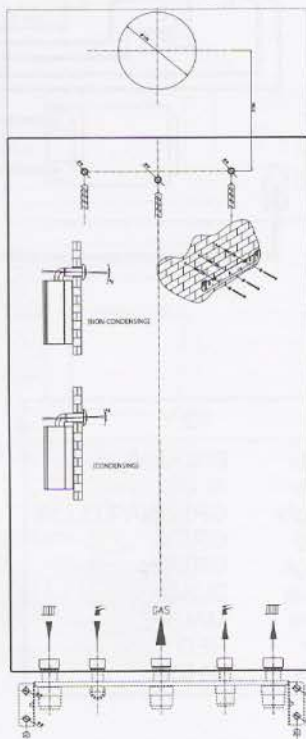

Figure 11.
10.3 Position the supplied template on the wall, ensuring it is level both vertically and horizontally (*figure 11*). Mark the boiler fixing jig (if required), wall bracket fixing positions and flue outlet position (rear flue only). For flue side exit from the boiler - Mark the horizontal flue centre line on the rear wall. Extend the horizontal line to the side wall allowing a 3° decline back towards the boiler, to enable condensate to drain back through the boiler. Mark the flue centre vertical line. (*figure 12*)